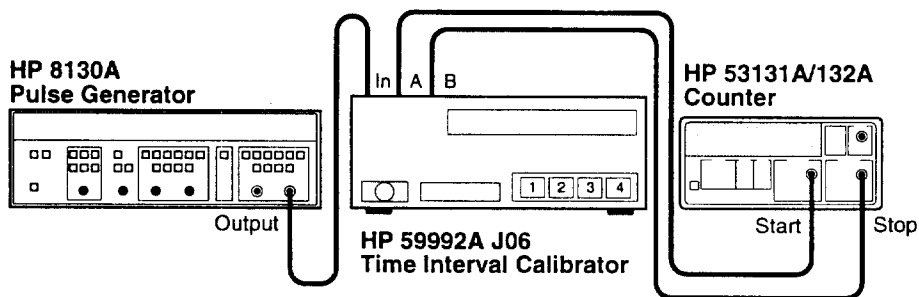

Figure 2-4. Calibration Setup for CAL: TI FINE?
- 1 **Connect the HP 8130A Pulse Generator, HP 59992A J06 Time Interval Calibrator, and HP 53131A/123A Counter as shown in Figure 2-4.**